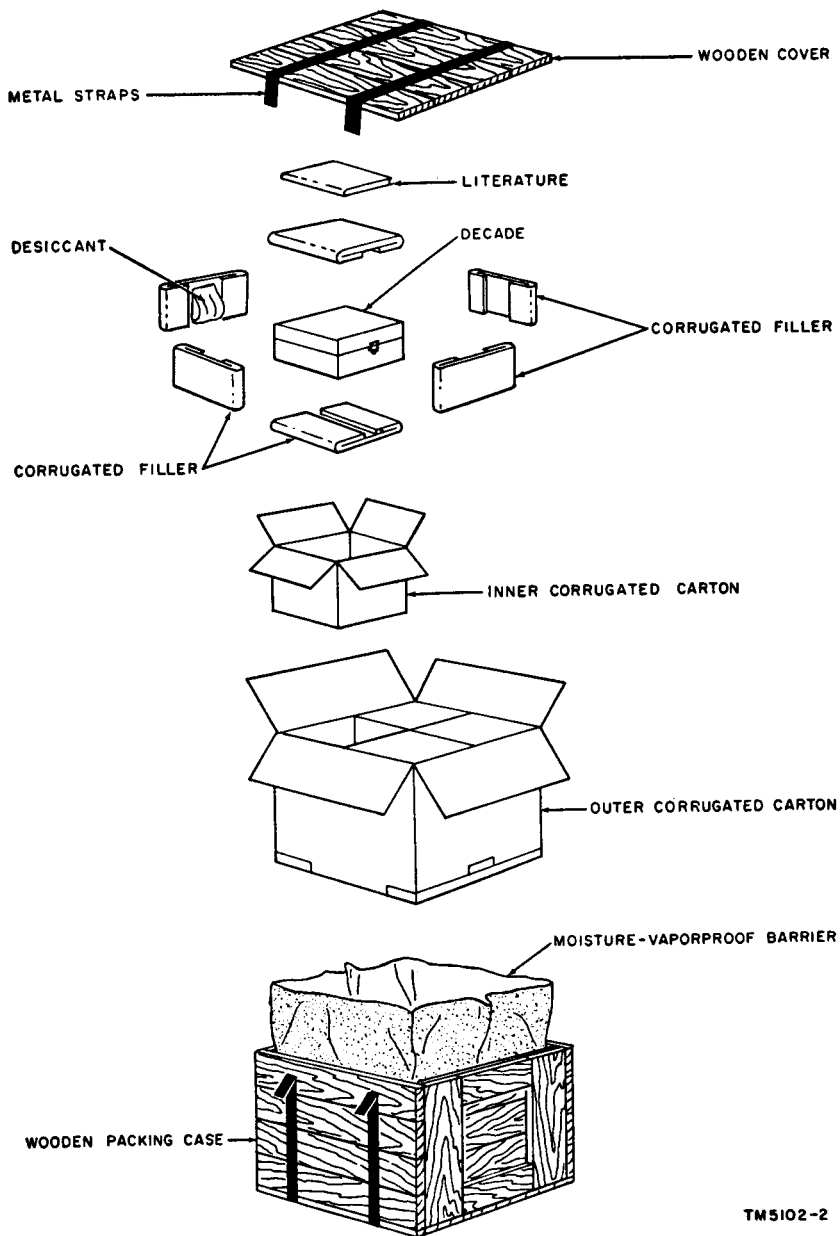

Figure 3. Decade Resistor ZM-16/U or ZM-16A/U, packaging diagram.
5. Packaging Data (fig. 3)
b. Uncrating and Unpacking Oversea Packages (fig. 3).
- (1) Place the wooden packing case in a convenient location.
- (2) Cut and fold back the metal straps.
- (3) Remove the nails with a nail puller. Remove the wooden cover of the wooden packing case.
- (4) Slit the seal, open, and fold out the top of the moisture vaporproof barrier.
- (5) Slit the seal and open the top of the outer corrugated carton.
- (6) Remove an inner corrugated carton.
- (7) Cut the tape that seals the inner corrugated carton and open the carton.
- (8) Remove the cushioning from the carton.
- (9) Lift the decade from the carton and place it on a solid table or workbench.
- (10) Inspect the decade for damage.